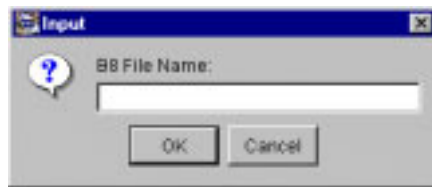

Figure 5.32 Input Window
- To export the B8 file, click OK. The Input window opens (Figure 5.32).